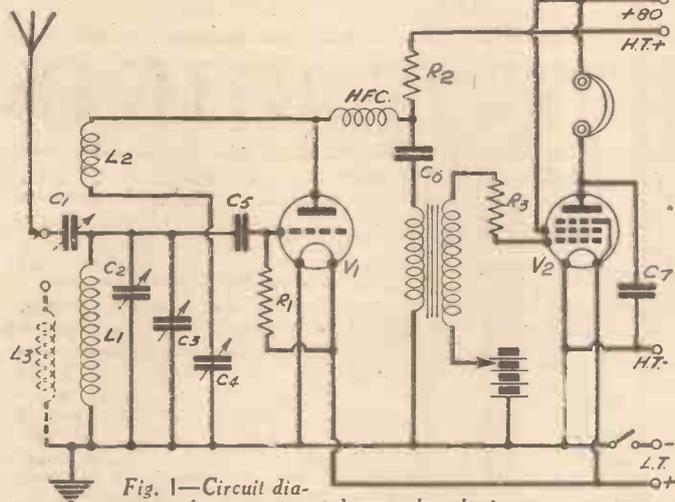

Fig. 1—Circuit diagram of an experimental two-valve short-waver.
L.F. stage greatly increases signal strength. A useful circuit is given in Fig. 1.